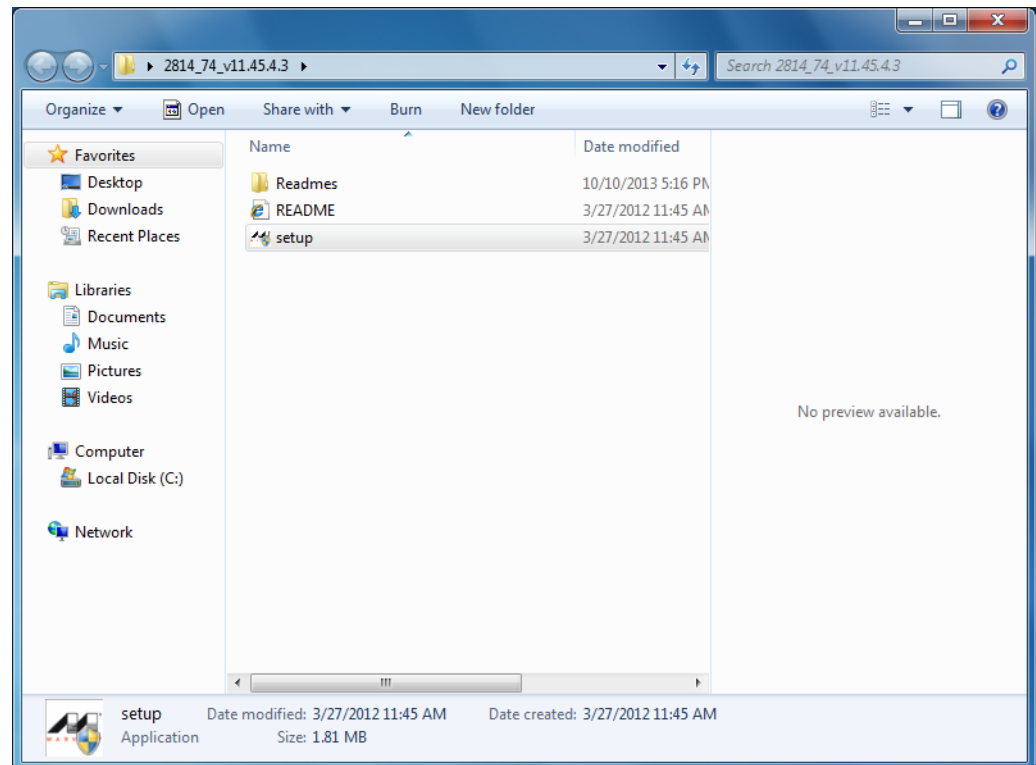

Figure 21. Setup File
3. Open the folder including uncompressed files. Figure 21 shows an example.